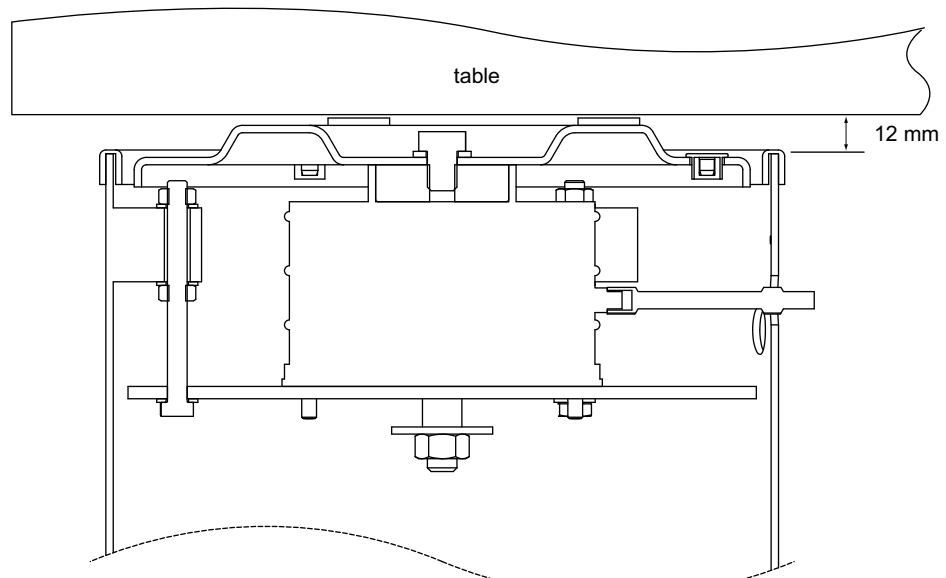

Fig. 3.5 Levelling the system
- 2) Repeat item 1) for the isolator diagonally opposite.
- 3) Repeat items (1) and (2) for the remaining two isolators.
- 4) Repeat items (1) to (3) until all four isolators have a gap of 12 mm between the outer cylinder and the underside of the table – see Fig. 3.5.